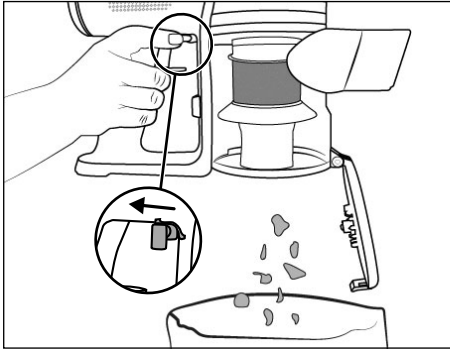

Fig. 16
- 1) Hold the appliance over a waste bin and press the dust container lid release button **4** to the left. The dust container lid **8** opens and the contents are emptied into the waste bin (see Fig. 16). Then close the dust container lid **8** by hand.